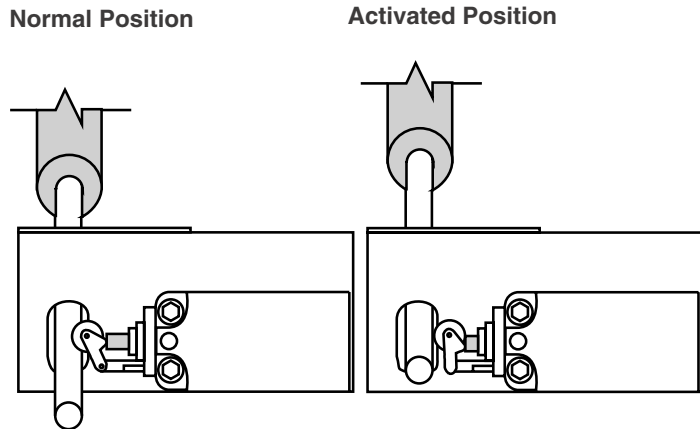

Fig. 35
**20. Testing For M Series Lifts:** Operate lift and assure that push button raises lift when pushed and stops lift when released. Check key switch for cutting power to push-button. Also check that overhead switch stops lift from raising when actuated and that lift regains power when deactivated, Fig. 35.
**20. Testing For E Series:** Check overhead sensor assembly to assure that switch bar is depressing switch plunger sufficiently to actuate the switch. The overhead switch is wired normally open, see appropriate wiring diagram for lift being installed. Lift will not operate until weight of switch bar is depressing switch plunger. Verify that Power Unit stops working when switch bar is raised, and restarts when the bar is released, Fig. 35.